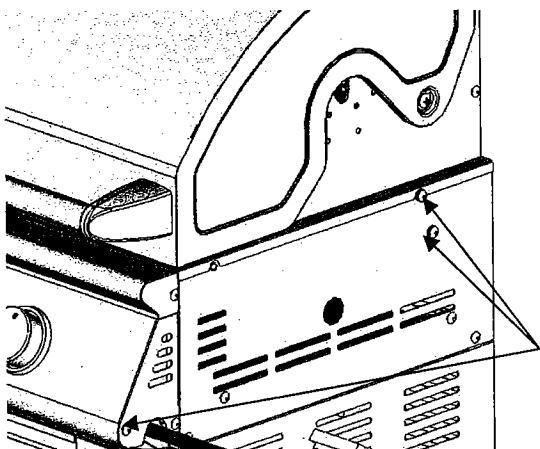

Fig. 24
- a. Loosen the two screws attached in the right panel of the burner box and one attached on the right panel of the control box 3-4 turns (See Fig. 24). Parts are not to be installed in this step. Just loosen the three screws.